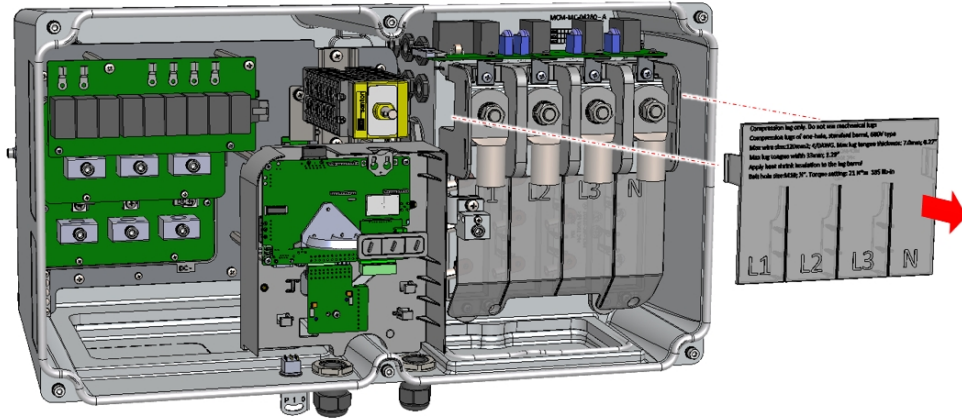

Figure 1: Removing the Upper Terminal Block Cover
1. Remove the upper terminal block cover (see *Figure 1*).
5. Install the upper terminal block cover (see *Figure 1*).